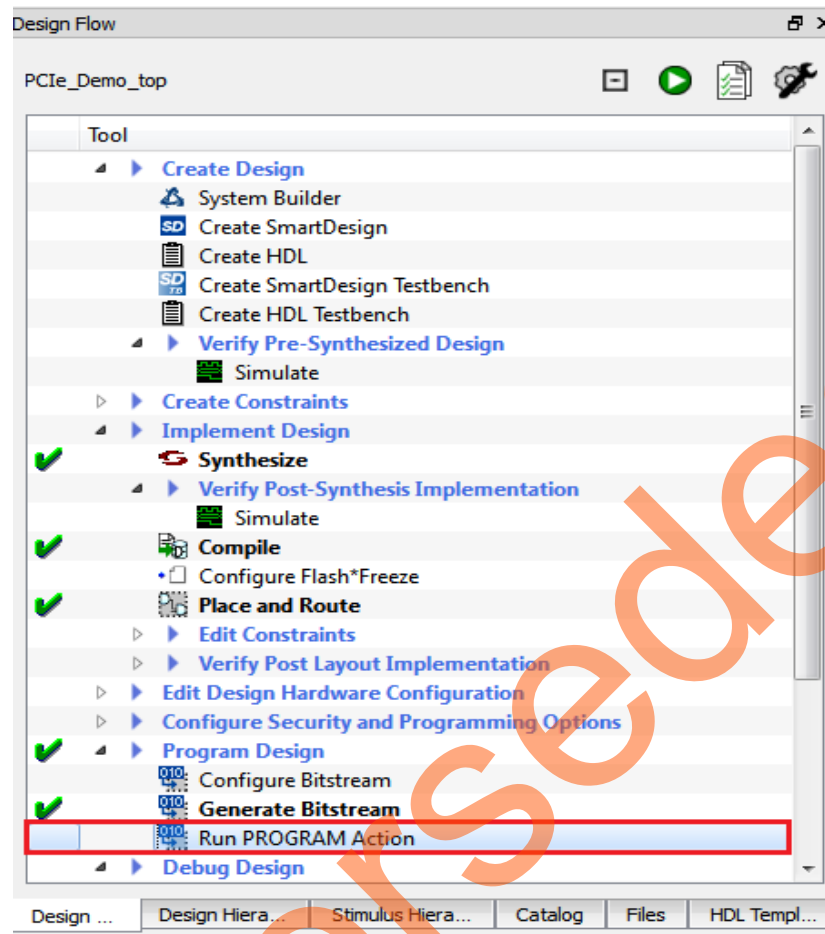

Figure 48 • Run Programming Action
5. To program the IGLOO2 device, double-click **Run Programming Action** in the **Design Flow** window as shown in Figure 48.